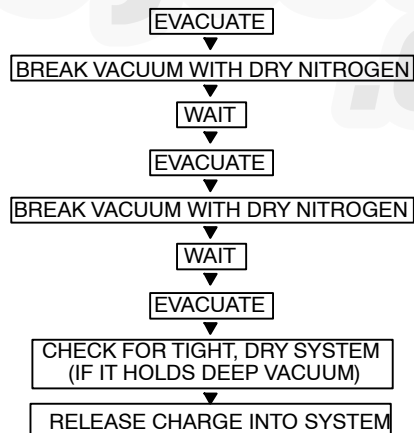

Fig. 30 – Triple Evacuation Method
The triple evacuation method should be used. Refer to Fig. 30 and proceed as follows:
- 5 Repeat this procedure as indicated in Fig. 30. System will then be free of any contaminants and water vapor.